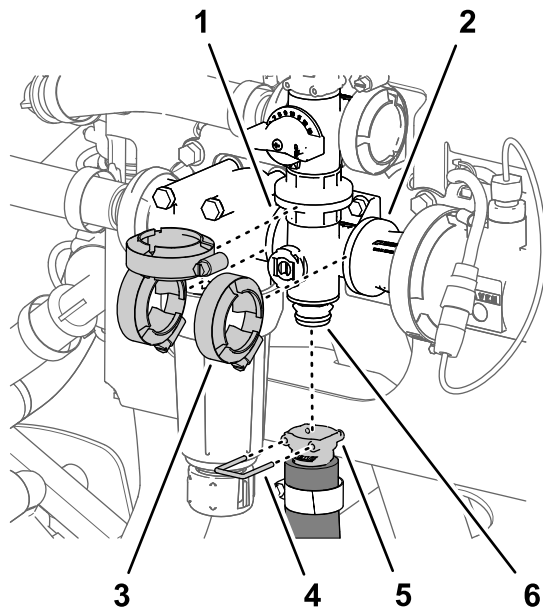

Figure 108
1. Remove the quick connect pin that secures the quick-connect coupler for the agitation hose to the manifold for the agitation valve (Figure 108).
2. Remove the 3 flange clamps that secure the agitation-valve manifold to the flanges of the pressure-filter head and the coupling adapter (Figure 108).